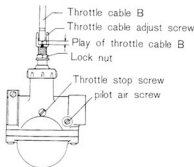

Fig. 2-3-2
a. Remove all slack from the two throttle cables by adjusting the throttle cable adjusting screw. (See Fig. 2-3-2.)